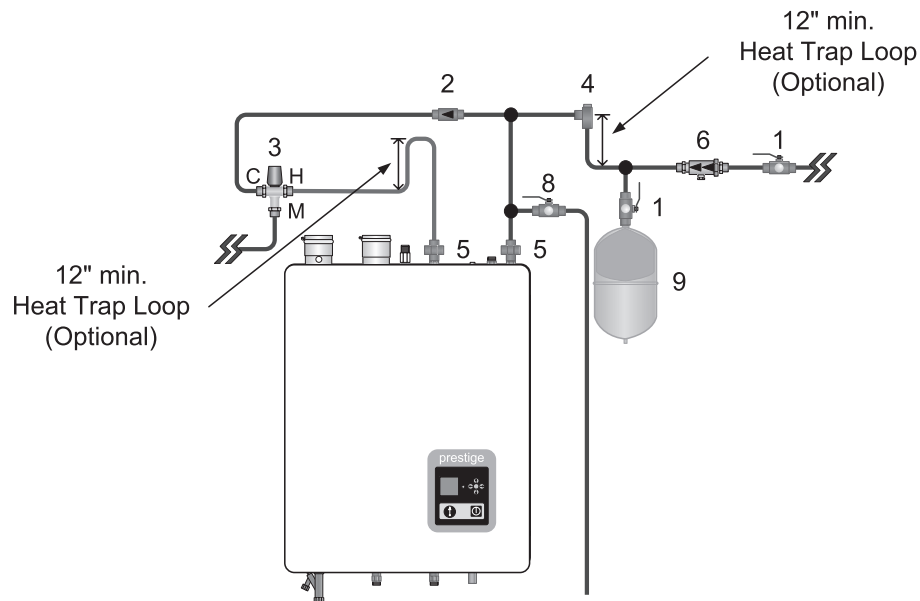

Fig. 4: Standard Installation Domestic Piping Excellence Series
- Install a tee connection at the domestic cold water inlet, as shown in Fig. 4, pages 9.